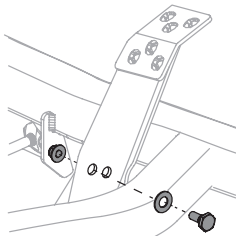

Figure 37
2. Remove the hex bolt, washer and hex nut near the center of the pedal assembly (Figure 37 on page 28).
4. Re-install the hardware previously removed and torque the nut to 28-35 ft-lbs (38-47 N-m) (Figure 37).